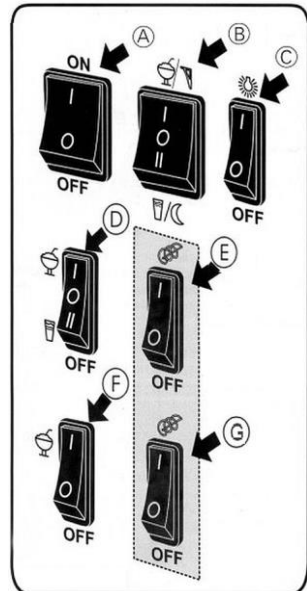

Fig. 4
2. Switch the ON/OFF switch (A, Fig. 4) to the 'I' position.
3. Turn the spindle on/off switches (E) for tank 1 and (G) for tank 2 to the 'I' position.
4. Switches (B), (D) and (F) turn to the "I" position to activate the cooling/freezing mode.
5. If necessary, switch the LED lighting switch (C) to the 'I' position to illuminate the tanks.